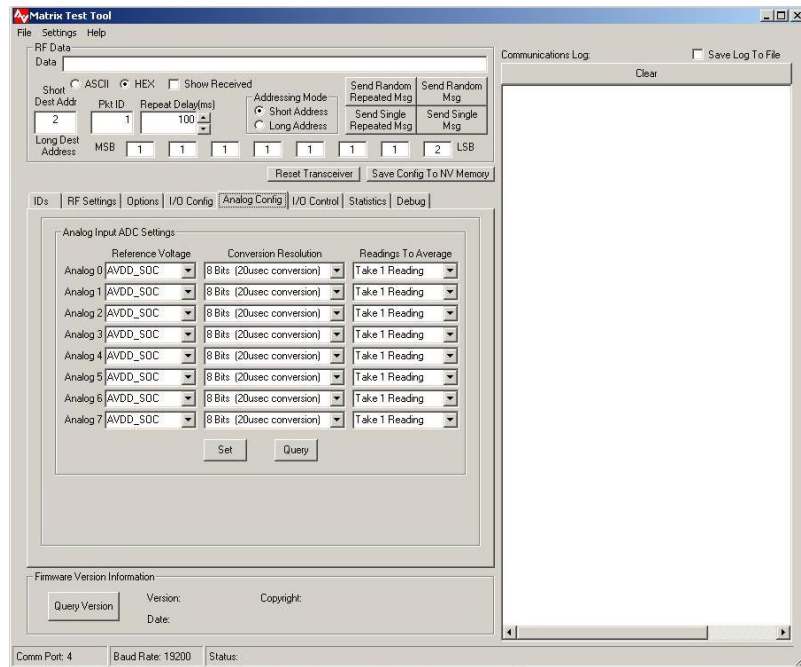

Figure 4-6. Analog Input Configuration
4.2.8 Analog Configuration (See Figure 4-6)
The Analog Configuration page can be accessed by clicking the *Analog Config* tab in the software, and is shown in Figure 4-6. The Analog Configuration page can be used to configure the pins set as analog inputs (Refer to Section 4.2.7) for their analog-to-digital converter settings.